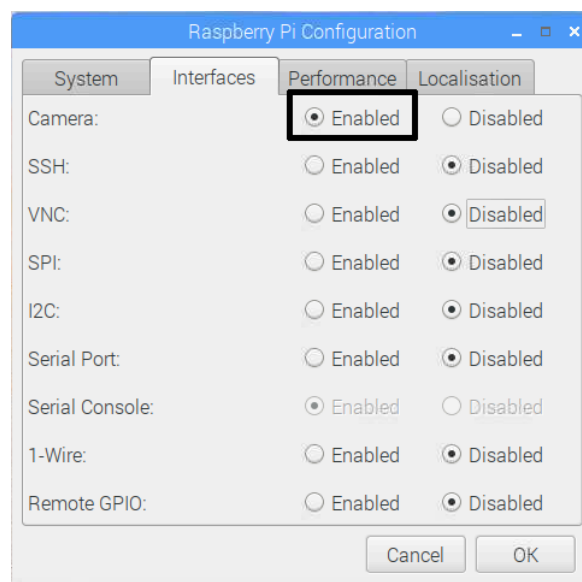

Figure 16.4: Raspberry Pi Interface Configuration
- Set “**Camera**” to **Enabled**, as shown in Figure 16.4.